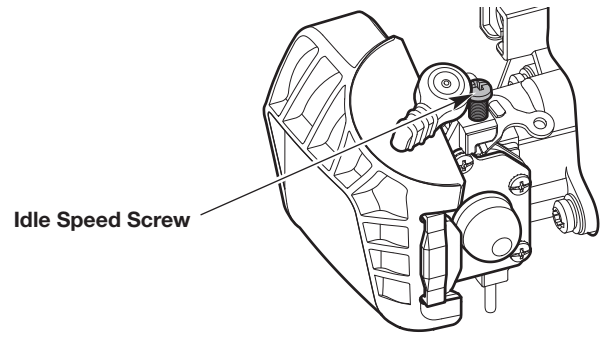

Fig. 8
2. Move the cruise control to the SLOW position and let the engine idle. If the engine stops, increase the idle speed. Use a small Phillips screwdriver to turn the idle speed screw clockwise, 1/8 of a turn at a time, until the engine idles smoothly (Fig. 8).